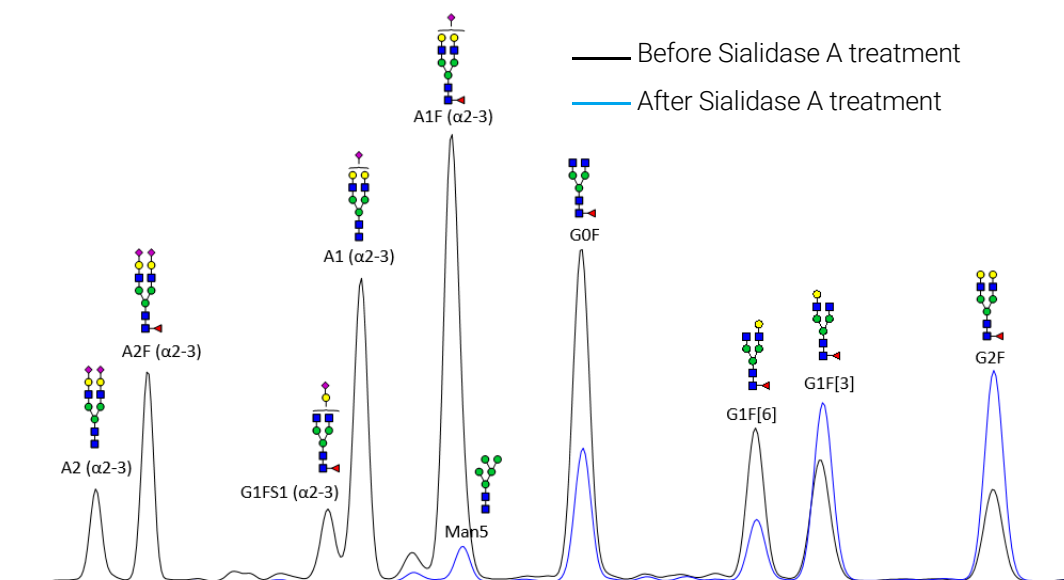
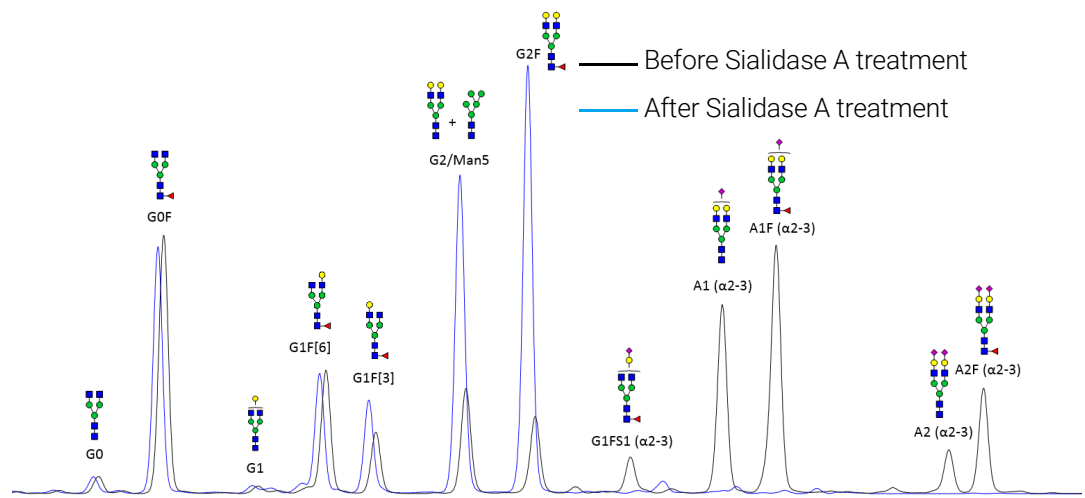

Figure 4. Gly-Q separation of APTS-labeled N-glycans from Enbrel (etanercept) before and after sialidase A digestion.
Figure 5. HILIC separation of APTS-labeled N-glycans from Enbrel (etanercept) before and after Sialidase A digestion. For HILIC methods, see “FAQs” on page 28.
- 4 Load the plate onto Gly-Q (**Figure 4**), and run with the same Instrument and Processing methods as untreated samples. Separation by HILIC is also an option (**Figure 5** on page 26).